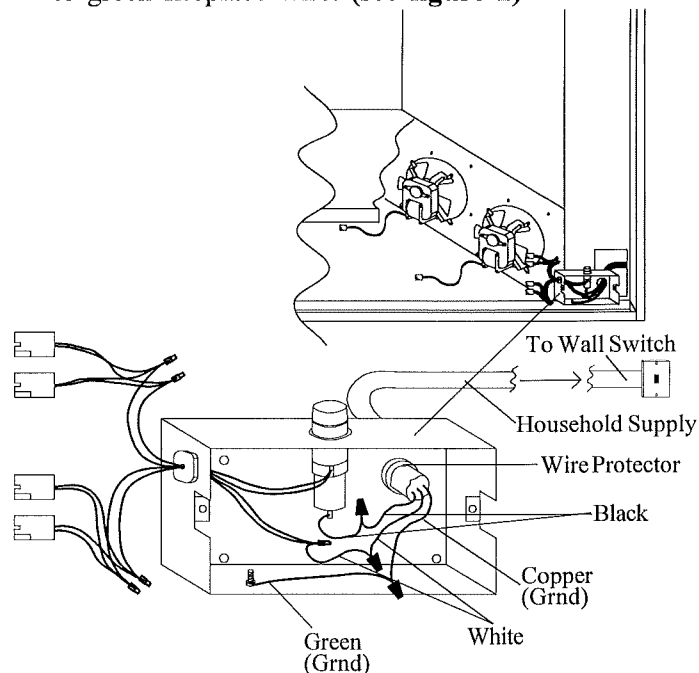

FIGURE 2. CONTROL BOX CONNECTIONS
- Feed household power supply through the square, electrical access opening, located at the bottom right side of the fireplace. (**see figure 2**)
- With marr. connectors, attach black "hot" wire to black fireplace wire. Attach white "neutral" wire to white fireplace wire. Attach copper "ground" wire to green fireplace wire. (**see figure 2**)